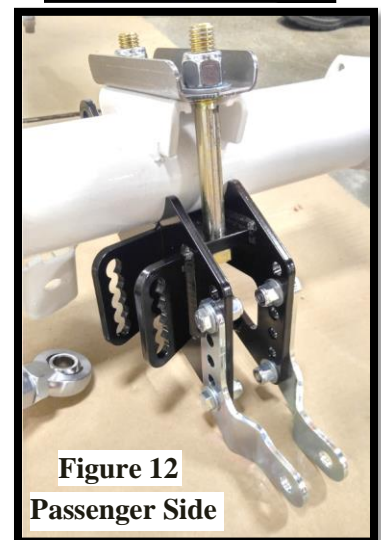

Figure 12
20. Install left and right shock mount onto each axle mount using 3/8" x 1.25" hardware. **(Figure 12)** Torque to 31 lb. ft. (1/2" hardware to be used to install coil-over shocks)